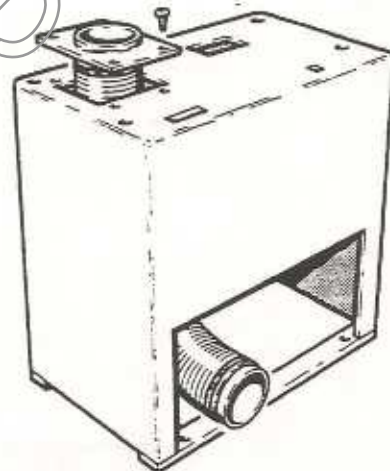

Fig.2.
- B. Place flexible hose through aperture in cabinet base and secure using 4 self tapping screws supplied (see Fig.2).